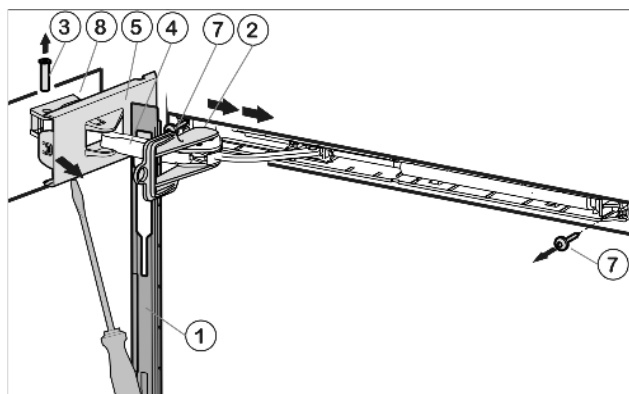

Fig. 5
- ▶ Slide the faceplate forwards over the soft stop bracket Fig. 5 (4) in the direction of the appliance.
- ▶ Snap the accompanying safety lock Fig. 5 (2) into the oblong hole.
- ▶ Using a screwdriver, detach the cover Fig. 5 (5) on the hinge side as far as the first detent.
- ▶ Press the pin Fig. 5 (3) out from underneath.
- ▶ Press the soft stop bracket *Fig. 5 (4)* towards the door.
- ▶ Fully detach the cover *Fig. 5 (5)* on the hinge side and remove it.
- ▶ Remove the faceplate *Fig. 5 (1)*.
- ▶ Unscrew the soft stop unit (2x Torx® 15) *Fig. 5 (7)*.
- ▶ Unscrew the bearing element *Fig. 5 (8)*, turn it 180° and transfer it to the opposite side. Possibly make preliminary holes with a bradawl or use a cordless screwdriver.